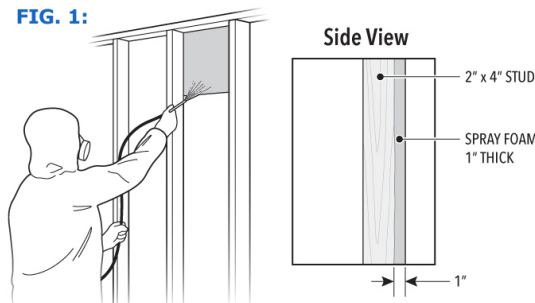

FIG. 2:
3) Spray additional layers of closed cell foam at cured thicknesses of one inch each to the desired final depth. (*Fig. 2*)